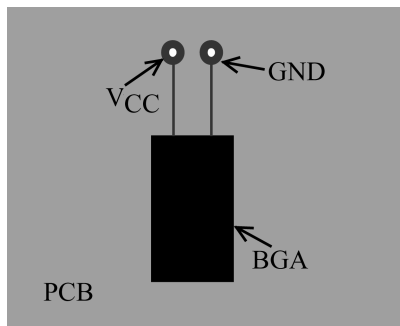

FIGURE 9. BGA Powered with Vias Outside the Package Land Area
2. Supplying power and ground to the BGA by connecting vias to the V_{CC} /GND planes and traces outside the BGA package. See Figure 9.